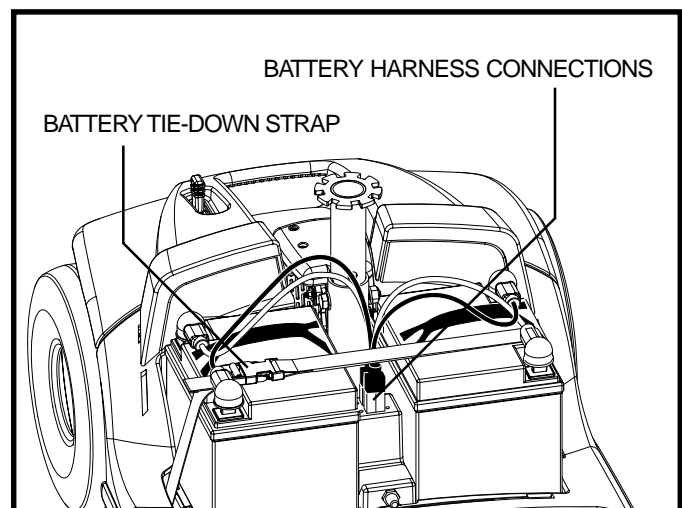

Figure 21. Harness Connections
4. Unplug both battery harnesses by pulling each harness straight up. **See figure 21.**
2. Connect both battery harnesses. See **figure 21**.